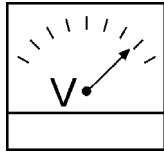

Figure 39. Voltmeter
4. The generator's AC-voltmeter (Figure 39) will display the generator's output in **VOLTS**. If the voltage is not within the specified tolerance.